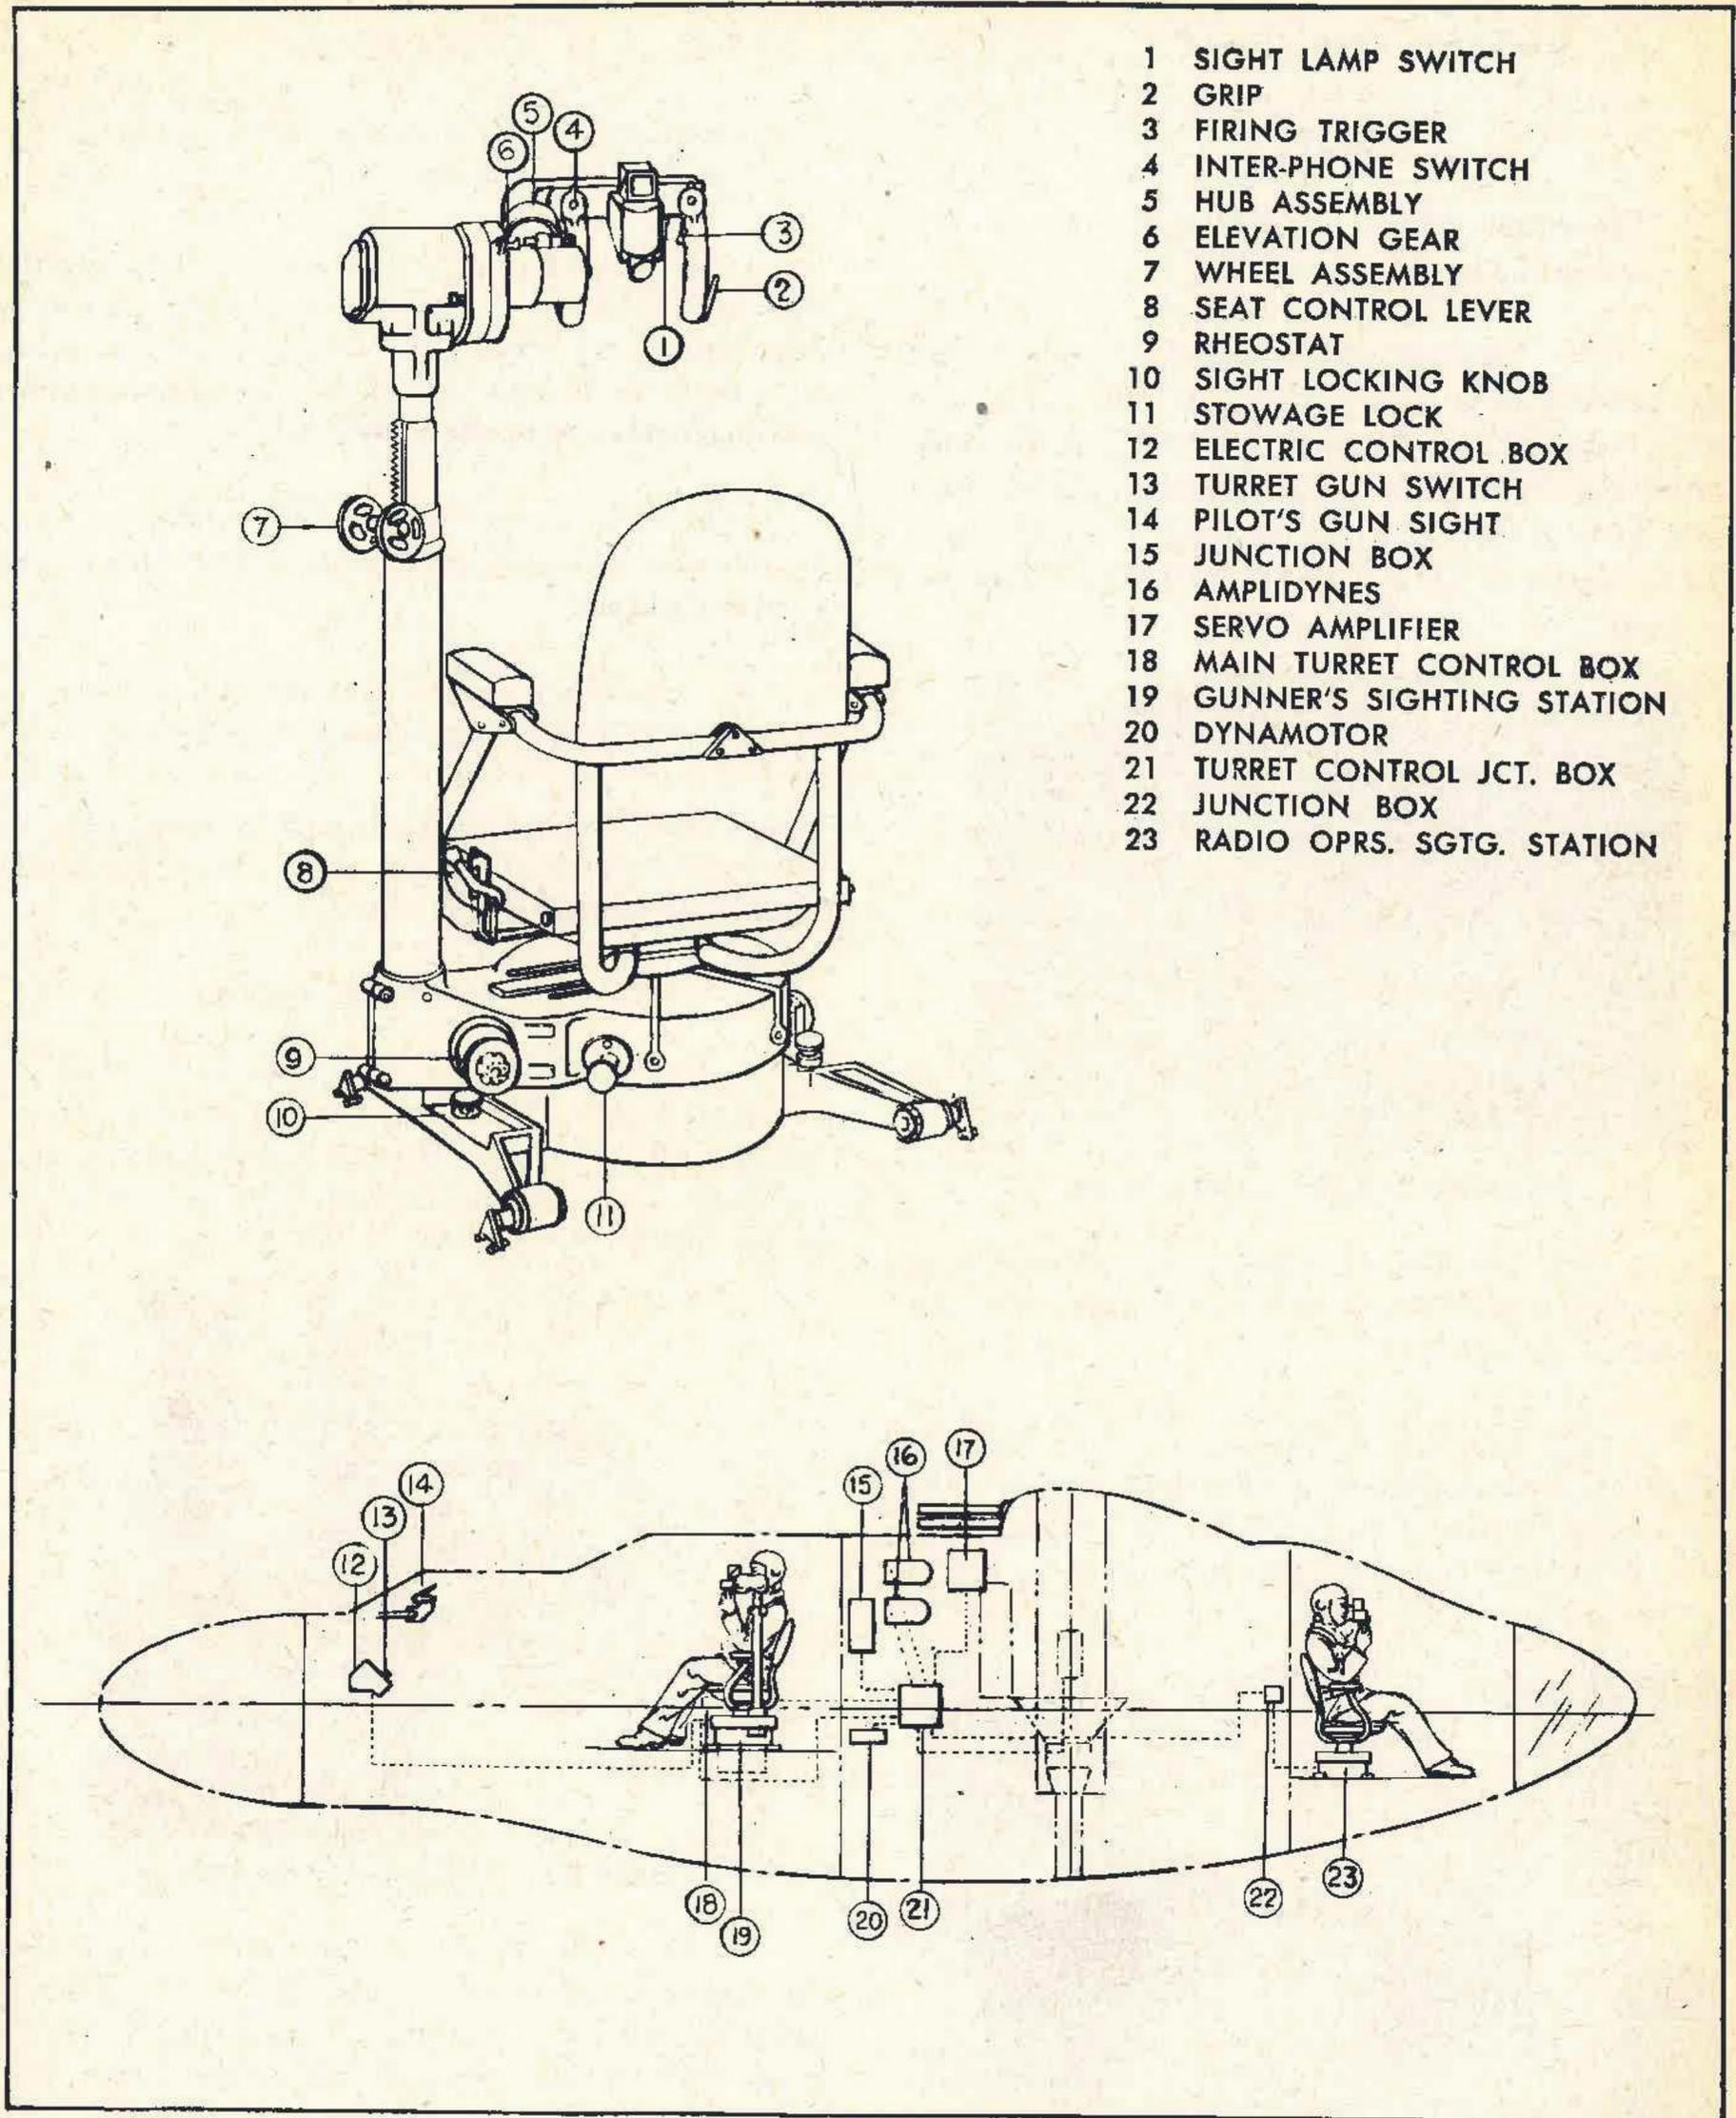

Figure 29 - Sighting Stations Diagram
d. GUNNER'S AND RADIO OPERATOR'S SIGHTS.—The gunner and radio operator are provided with seats which include sighting stations for the control of the four fifty-caliber machine guns mounted in the power-driven turret. (Fig. 29.)